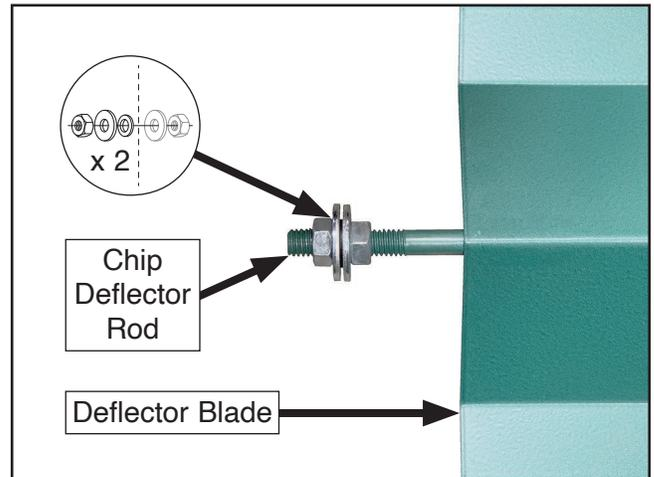

Figure 40. Location of chip deflector components (front end shown).
27. Remove pre-installed exterior hex nuts, flat washers, and rubber gaskets from both ends of (1) chip deflector rod (see **Figure 40**).